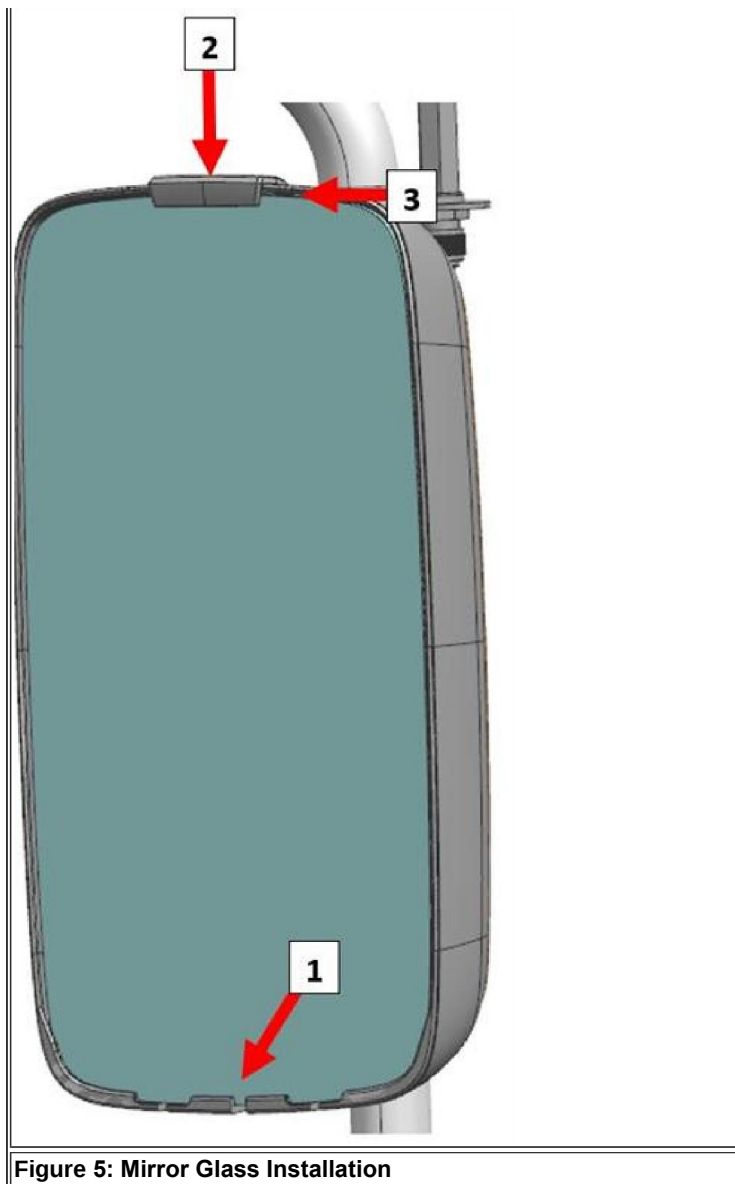

Figure 5: Mirror Glass Installation
Step 2: Insert lower edge of glass into the housing's lower retainers shown as #1 in figure 5.
Step 4: Insert upper retainer clip into mirror housing from the top pushing downward as shown as #2 in figure 5.
Step 5: Slide upper retainer to the left as shown as #3 in figure 5 to lock the mirror glass in place.